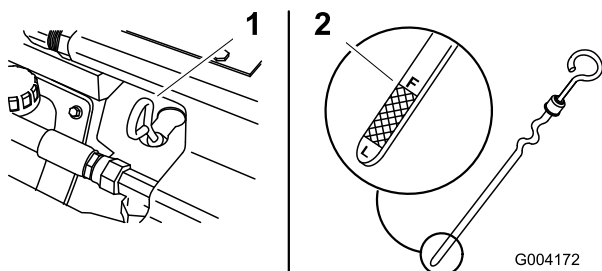

Figure 14
4. Clean around the oil dipstick (Figure 14).
5. Pull out the dipstick and wipe the metal end clean (Figure 14).
6. Slide the dipstick fully into the dipstick tube (Figure 14).